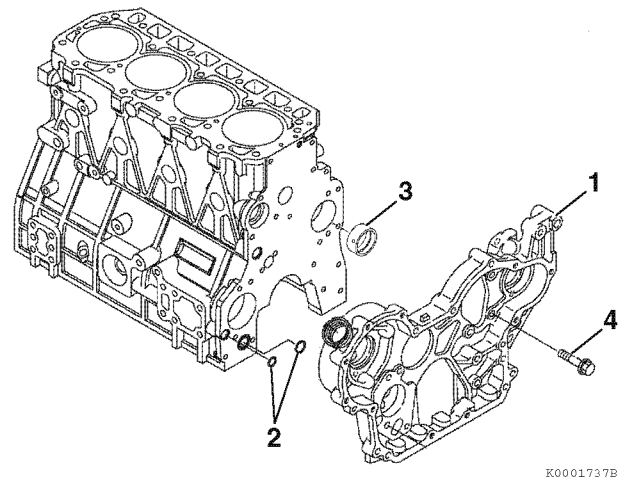

Figure 6-52
- Remove the bolts (Figure 6-52, (4)).
- Remove the gear case (Figure 6-52, (1)) from the cylinder block. Thoroughly clean all old sealant from the mating surfaces.
- Inspect and measure the camshaft bushing. See Camshaft on page 6-7 for the service limit. If damaged or worn beyond service limits, remove the camshaft bushing (Figure 6-52, (3)).
- 4TNV98C, 4TNV98CT:** Remove two O-rings (Figure 6-52, (2)).